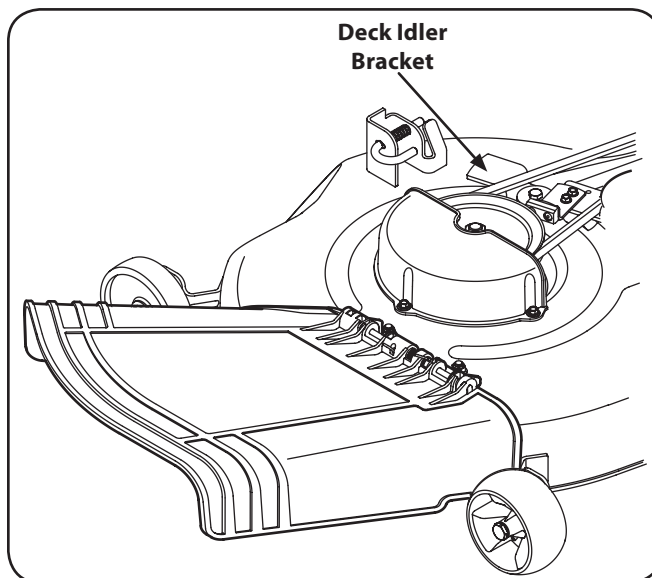

Figure 7-6
NOTE: If there is too much tension on the belt for it to be easily removed from the electric PTO clutch, carefully insert a $\frac{3}{8}$ " drive ratchet wrench (set to *tighten*) into the square hole found in the left-hand deck idler bracket and pivot it toward the tractor's right side to relieve tension on the belt. See Fig. 7-6.
3. Remove the belt guards by removing the self-tapping screws that fasten them to the deck. See Fig. 7-6.